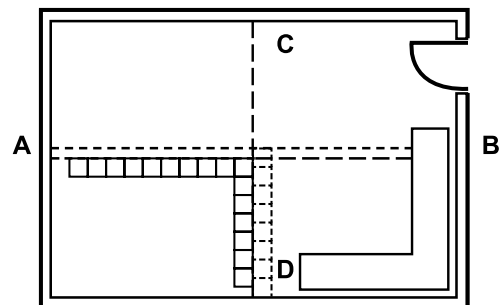

Fig. 4 - Adjust layout at center lines for larger border tiles.
**Tile Installations** - Snap a chalk line down the center of the floor parallel with the long dimension of the room. Find the center of the chalk line and snap a second chalk line at a right angle to the center line. Adjust the chalk line if necessary to avoid narrow pieces at the side walls (Fig. 4).